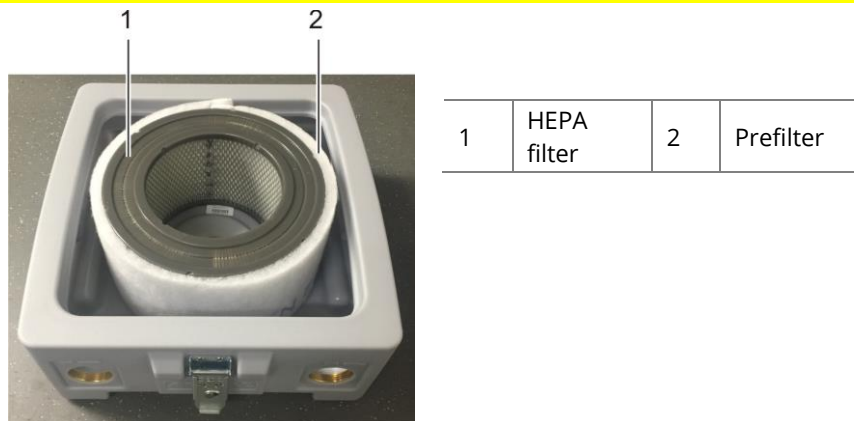

Fig. 3: HEPA filter and prefilter
- Pull the HEPA filter out of the housing bottom part, and insert new HEPA filter or prefilter (see fig. 4 and 5 on the next page). Use only original filters to guarantee proper functioning of the HEPA filter HF2. The prefilter is fastened around the HEPA filter with Velcro (see fig. 3).